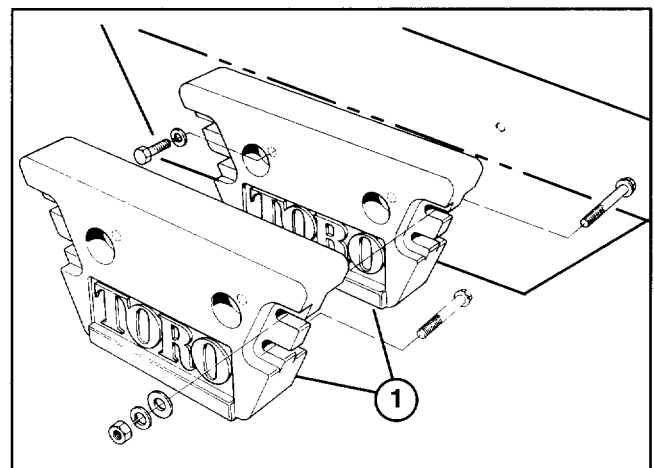

Figure 18
MOUNT REAR WEIGHTS (Fig. 18)
1. Mount rear weights to back of machine as shown in figure 18. Order kit #24-5780 (includes 2-weights and hardware) from your Authorized Toro Distributor.